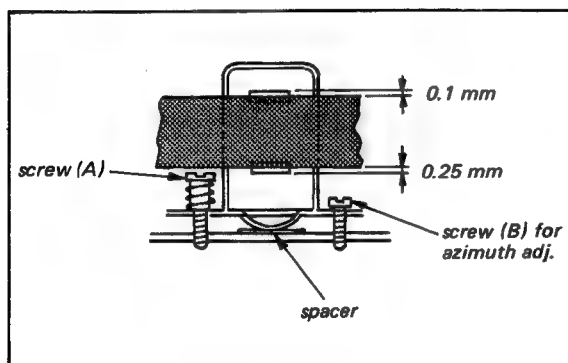

Fig. 7-15 Audio/CTL head (2)
6. Play the tape and check that the core of the head extends 0.1 mm above and 0.25 mm below the edges of the tape. See Fig. 7-15. The height can also be adjusted by inserting spacers.
9. Adjust the azimuth adjustment screw in Fig. 7-15 to obtain maximum VTVM reading.